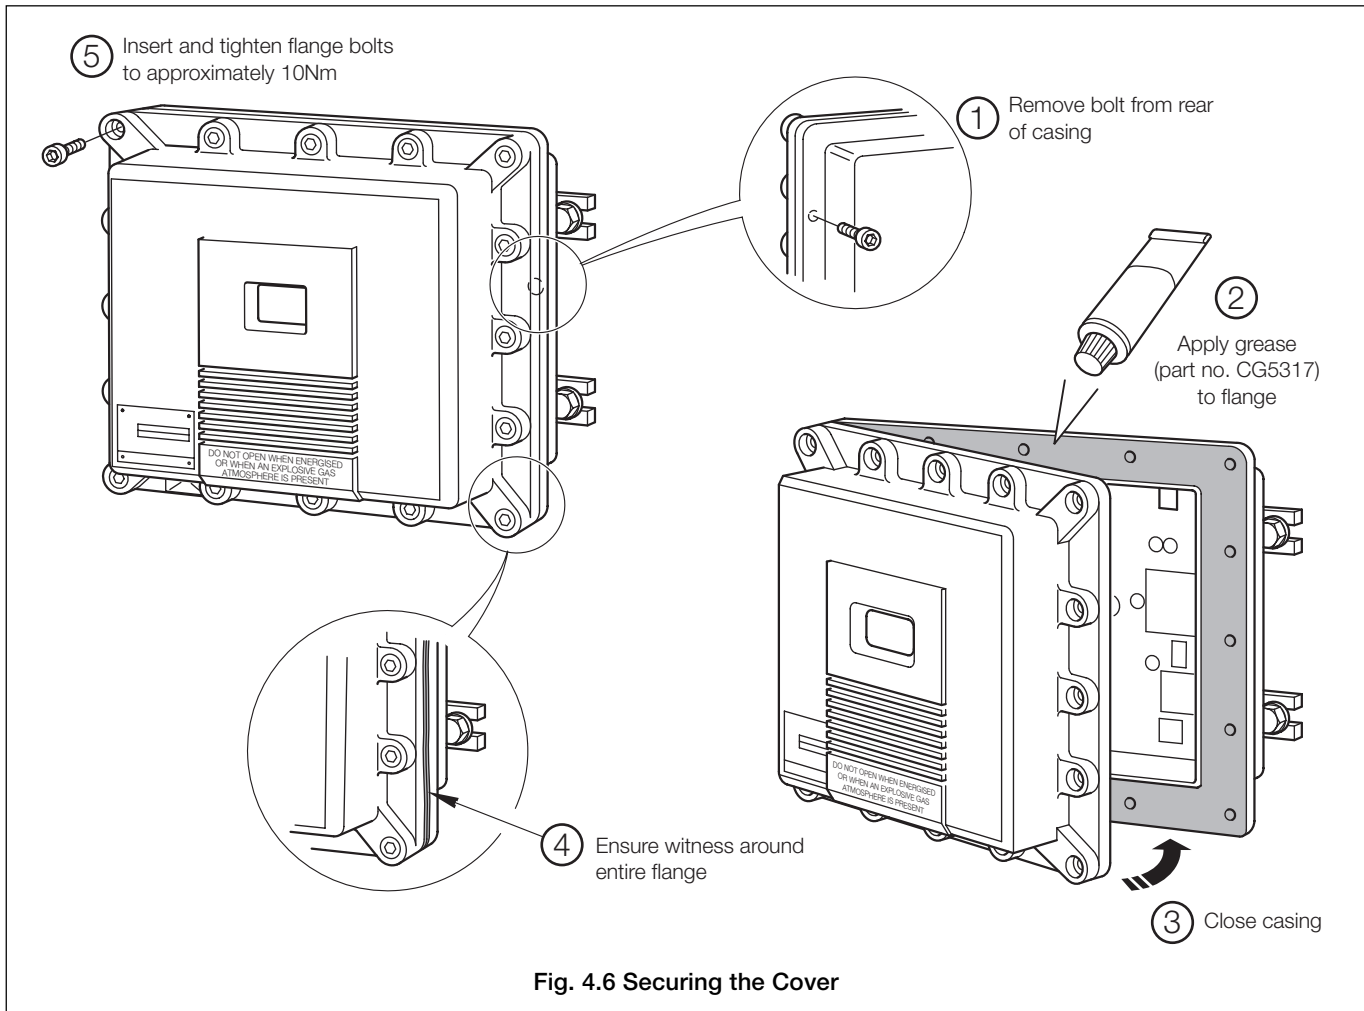

Fig. 4.6 Securing the Cover
4.7 Re-sealing the Cover after Connection – Fig. 4.6